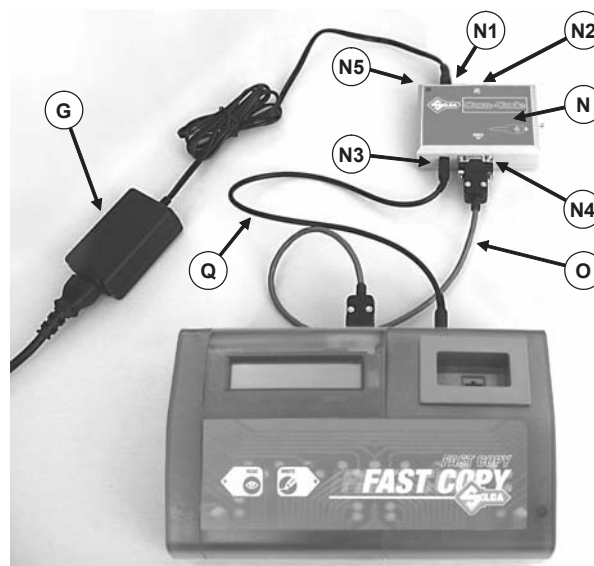
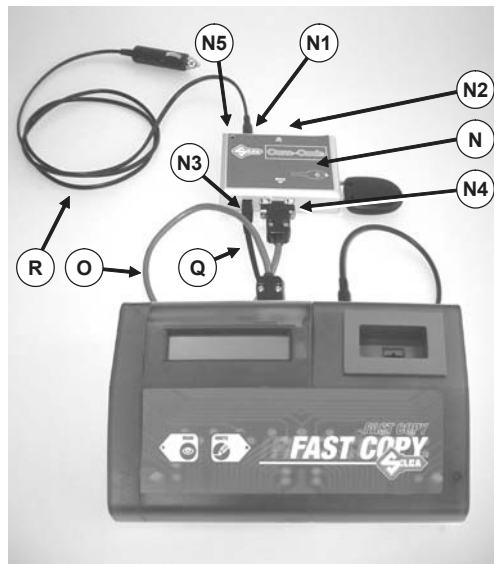

Fig. 6
Fig. 7
**R** power lead from vehicle cigarette lighter (provided with Com-Code module) (Fig. 7)
The two figures "Fig. 6" and "Fig. 7" show the various uses for the machine and module.